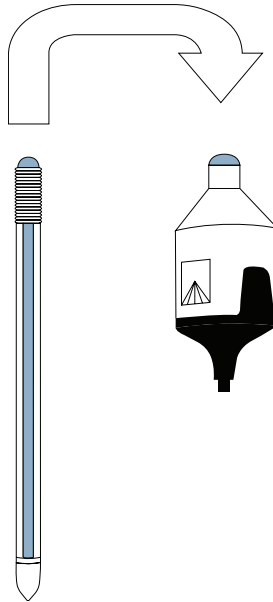

Figure 5 Shaft and sensor unit with meniscus
17. Put a few drops of degassed and deionized water onto the sensor unit shaft connector until a meniscus forms (Figure 5).
20. Put a drop of degassed and deionized water on the open end of the shaft so a meniscus forms (Figure 5).